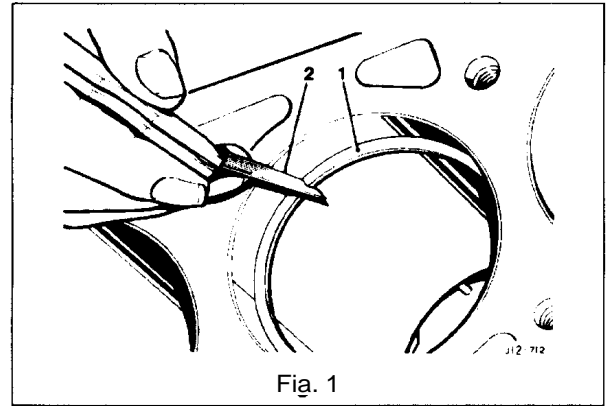

Fig. 1
- Fit the rings to the pistons ensuring that gaps are positioned as shown in Fig. 1.